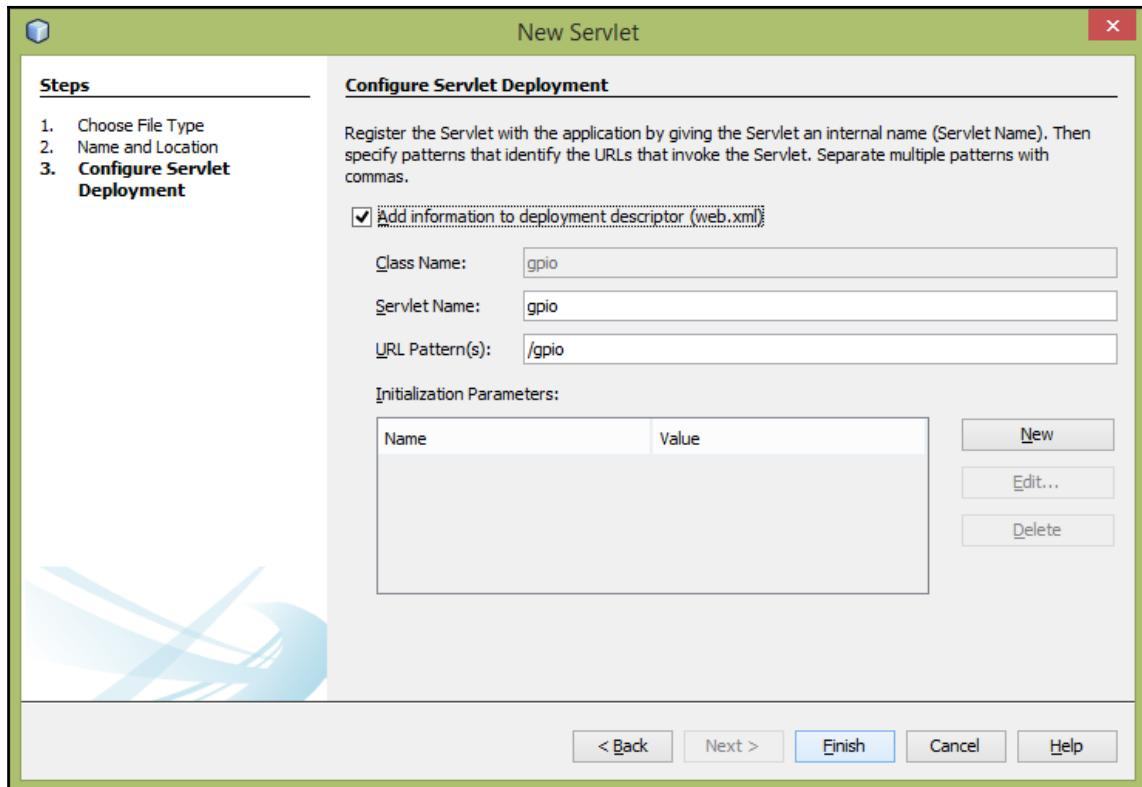

Figure 6-12: New servlet - Configure servlet deployment
3. In the final step (Figure 6-12), select **Add information to deployment descriptor (web.xml)**. Don't change the default **Servlet Name** (`gpio`) and **URL Pattern** (`/gpio`). Click the **Finish** button to save the configuration: